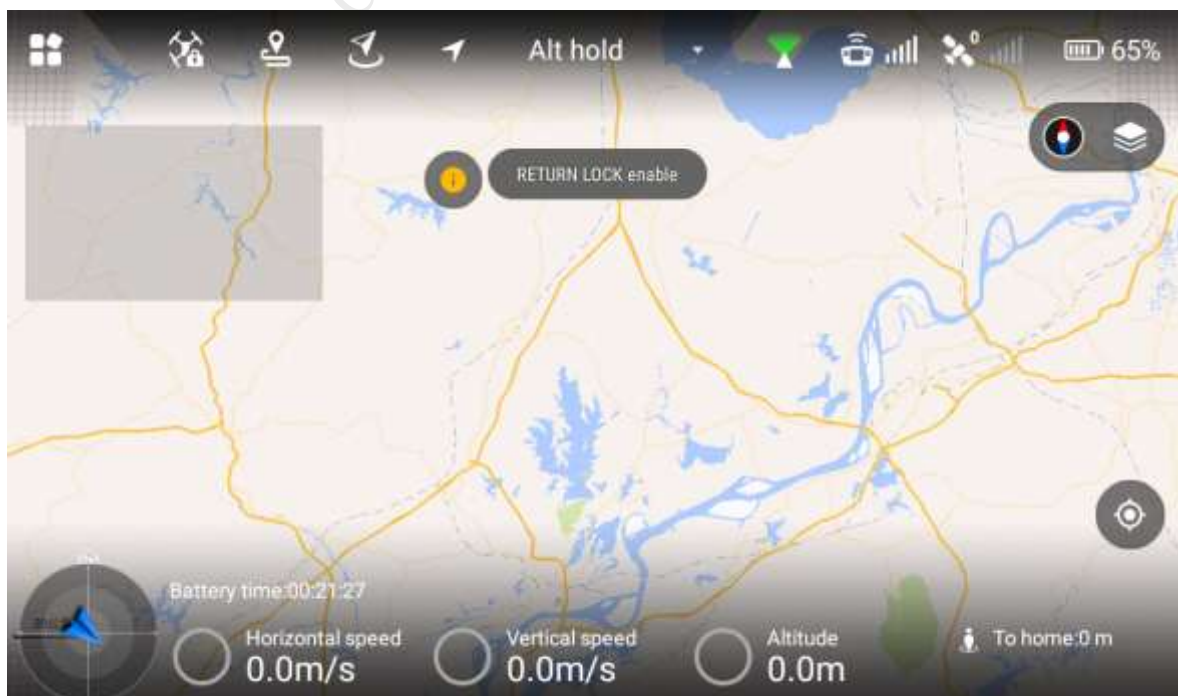

Figure 4-21
Step 2 Click "Return Lock" and the icon becomes yellow, and it will prompt "Return Lock Enabled", as shown in Figure 4-21.